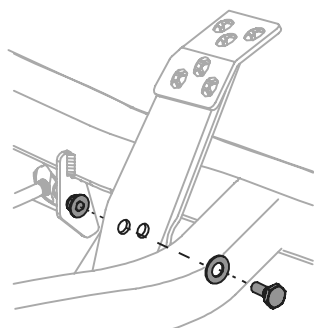

Figure 36
2. Remove the hex bolt, washer and hex nut near the center of the pedal assembly (Figure 36).
4. Re-install the hardware previously removed and torque the nut to 28-35 ft-lbs (38-47 N-m) (Figure 36).